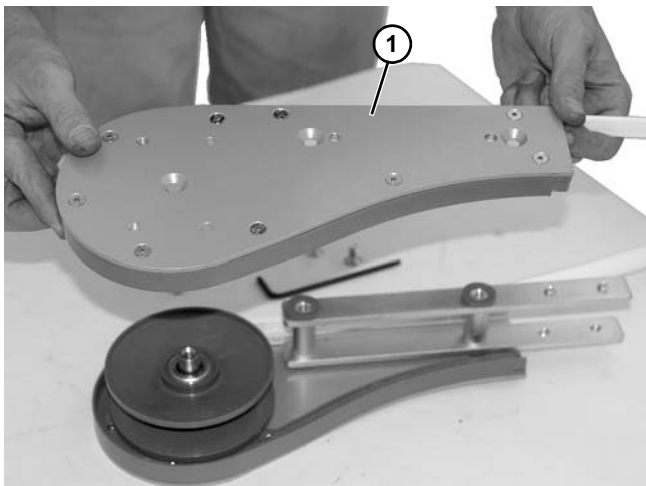

Figure 123
3. Remove the head plate (Figure 123, item 1) from the idler end.